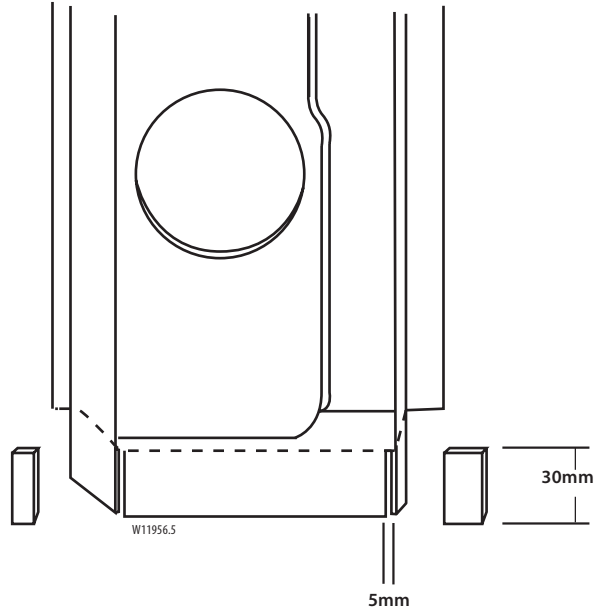

Figure 6-5:
8. Cut and remove 30mm ($1\frac{3}{16}$ inches) from the flanges on either side of the remaining section of the original hinge pillar to create 30mm ($1\frac{3}{16}$ inch) tabs. Cut 5mm ($\frac{3}{16}$ inch) wide gaps in the bottom corners (figure 6-5).